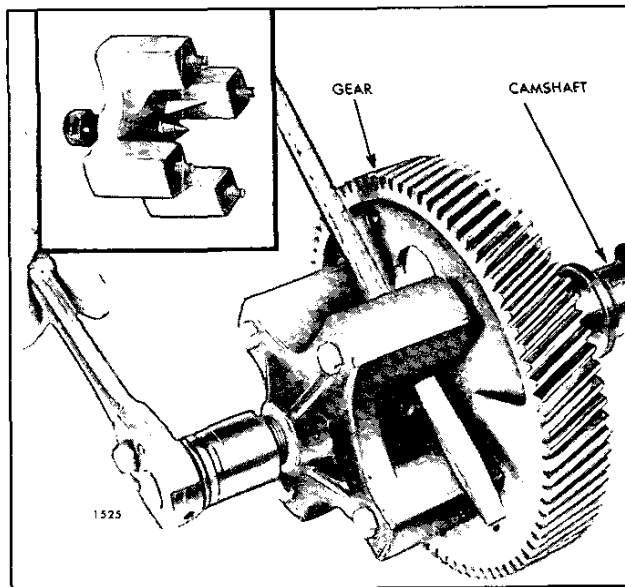

Fig. 3 – Removing Camshaft Gear with Tool J 1902-01
9. Install the camshaft gear puller J 1902-01, four spacers J 6202-2 and camshaft gear puller adaptor plate J 6202-1 on the camshaft gear (Fig. 3).